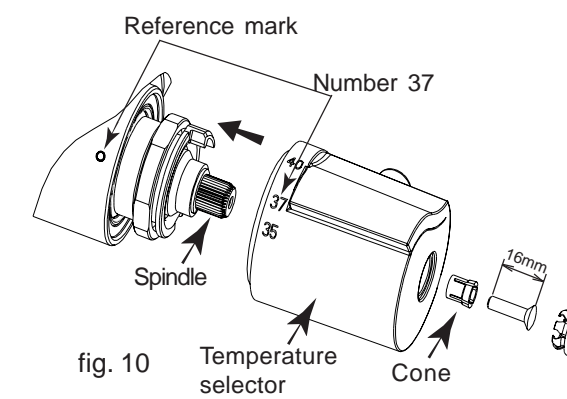

fig. 10
- Install the temperature handle (without turning the spindle) lining the number 37 with the mark (fig. 10).